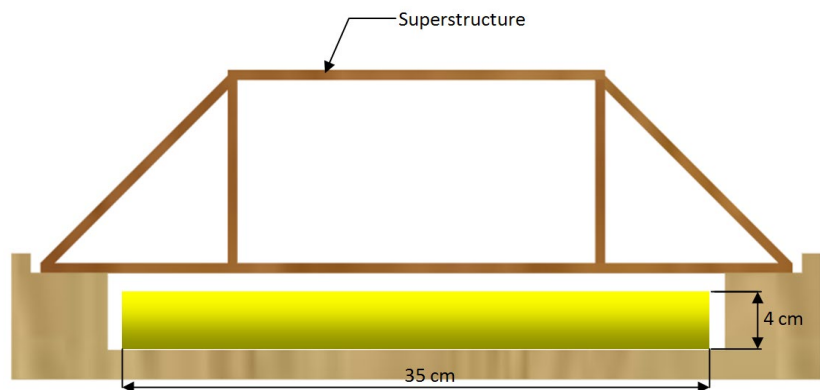

Figure 2
3. The bridge shall be constructed in such a manner as to allow passage of a block which is 35.0 cm in length and 4.0 cm in height to pass underneath without contacting any portion of the bridge when the bridge is in the testing position. See Figure 2